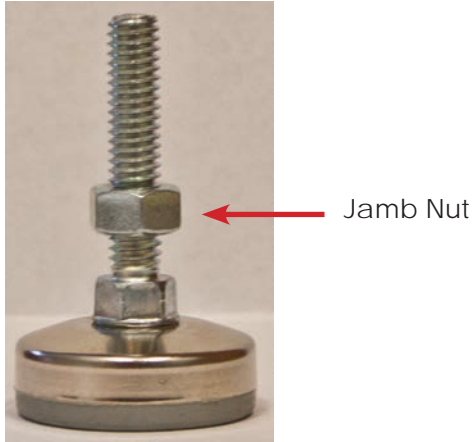

Fig. 7: Leg Leveler
Warming Cabinets are shipped with 4 Leg Levelers which must be installed by the customer (Fig. 7).
1. Remove four 8 X 1-5/8" self tapping screws and lift off the Top Outer Panel. See Fig. 7.
2. Remove two 8 X 1/2" self tapping screws and lift off the Top Inner Panel. See Fig. 7.
9. Re-install the Inside Top Panel using two 8 X 1/2" self-tapping screws. See Fig. 7.
10. Re-install the Outside Top Panel using four 8 X 1-5/8" self-tapping screws. See Fig. 7.